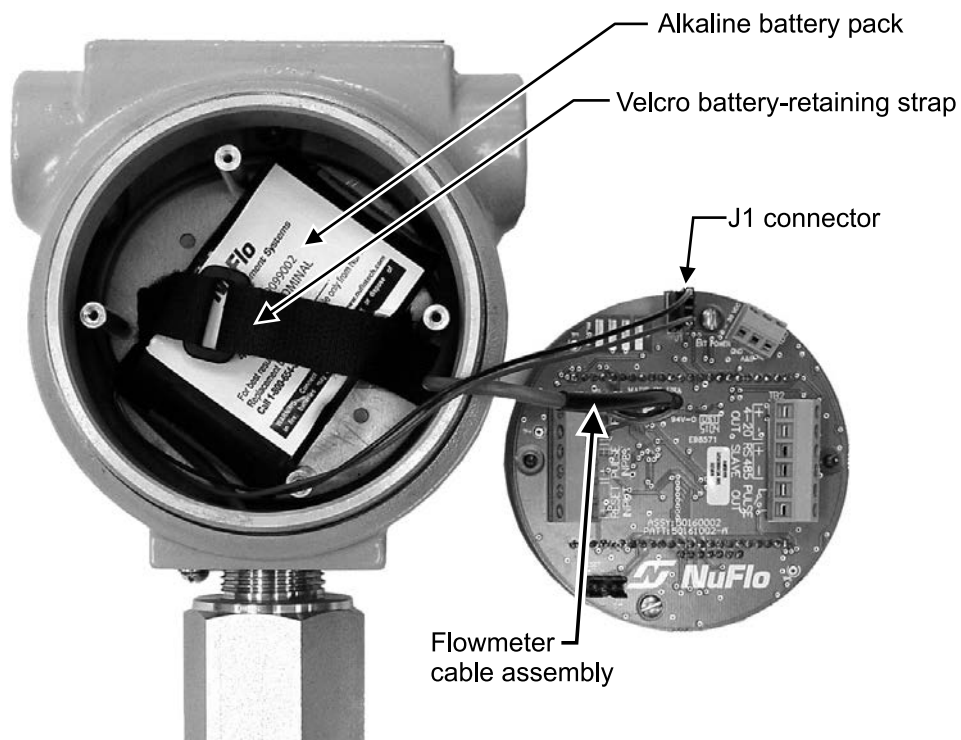

Figure 6.4—Removal/replacement of alkaline battery pack
4. Loosen the Velcro strap, disconnect it from the J1 connector on the circuit assembly, and remove the battery from the enclosure (Figure 6.4).
5. Install the new shrink-wrapped battery pack in the same position as the original battery pack as shown in Figure 6.4, page 92 and secure the Velcro strap to hold the pack tightly in place.